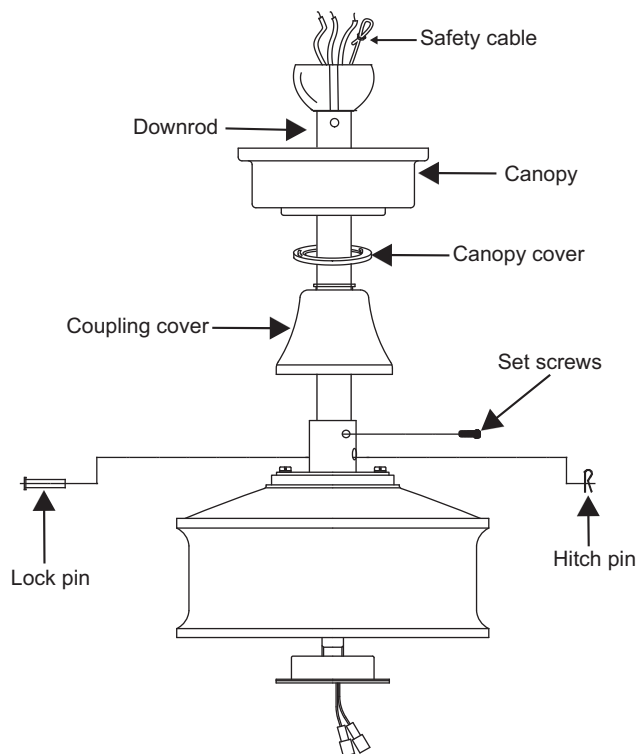

Figure 7
Step 6. Route the safety cable and wires exiting from the top of the fan motor through the collar cover, canopy cover, canopy and then through the ball / downrod. (Fig. 7)
Step 7. Align the holes at the bottom of the downrod with the holes in the collar on top of the motor housing (Fig.7). Carefully insert the hanger pin through the holes in the collar and downrod. Be careful not to jam the pin against the wiring inside the downrod. Insert the locking pin through the hole near the end of the hanger pin until it snaps into its locked position, as noted in the circle inset of Fig. 7.
Step 8. Tighten two set screws on top of the fan motor firmly. (Fig. 7)